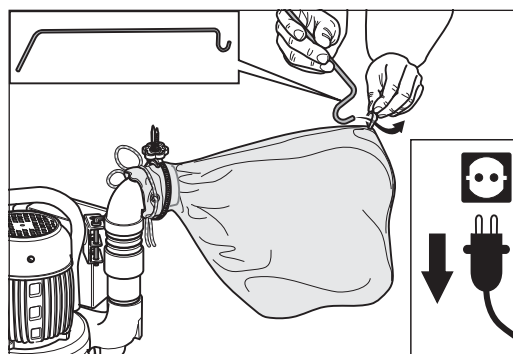

Fig. 7 Hook the cable support into the sling on the dust bag.
- 6 Pick up the cable support and hook it into the sling on the top end of the dust bag (fig. 7).